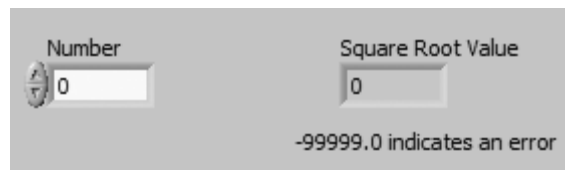

Figure 6.38
2. Build the front panel shown in Figure 6.38.